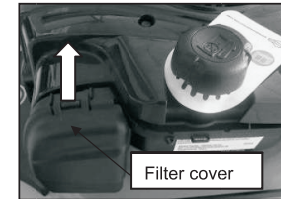

Fig. 16A
1. Lift the tab on top of the filter cover. (Fig. 16A)
2. Remove the filter cover. (Fig. 16A)